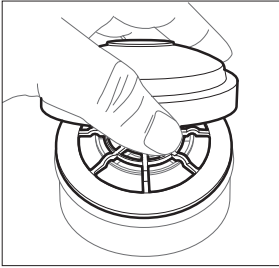

Figure 4
- c. Snap the filter assembly onto the cartridge (Figure 4).